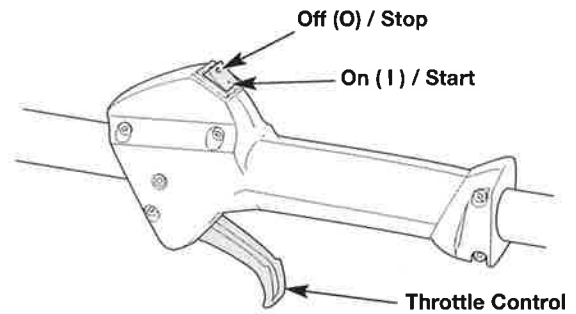

Fig. 4
NOTE: There is no need to turn the unit on. The On/Off switch is in the ON (I) position at all times (Fig. 4).
6. Squeeze the throttle control (Fig. 4) and pull the starter rope with a controlled and steady motion **5 times** (Fig. 6).
2. Press and hold the On/Off switch in the OFF (O) position until the engine comes to a complete stop (Fig. 4).